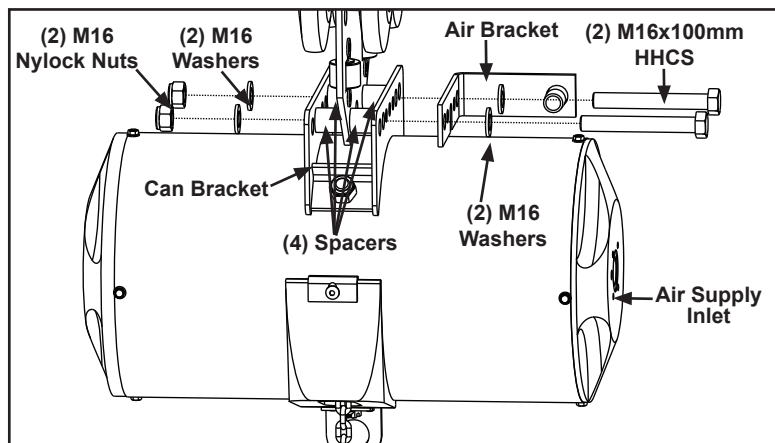
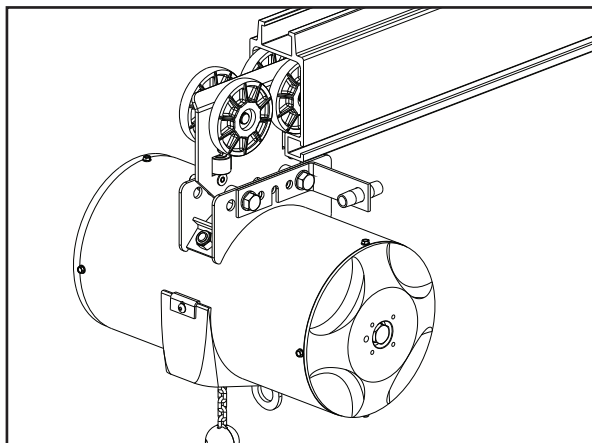

Figure 3-79
Figure 3-80
- Step 1. Slide two (2) M16 x 100 mm HHCS with M16 washers through the air bracket and on one side of can bracket. See Figure 3-79.
- Step 2. Sandwich trolley with spacers inside balancer bracket by sliding one (1) 5/8 in (16 mm) x 1 in (25 mm) spacer on each bolt and slide bolts through mounting holes on trolley. See Figure 3-79.
- Step 3. Install two (2) remaining spacers, one (1) per bolt, between trolley and second plate on can bracket.
- Step 4. Install two (2) M16 x 2.0 nylock nuts and M16 flat washers onto mounting bolts.
- Step 9. Roll trolley into rail. See Figure 3-80.